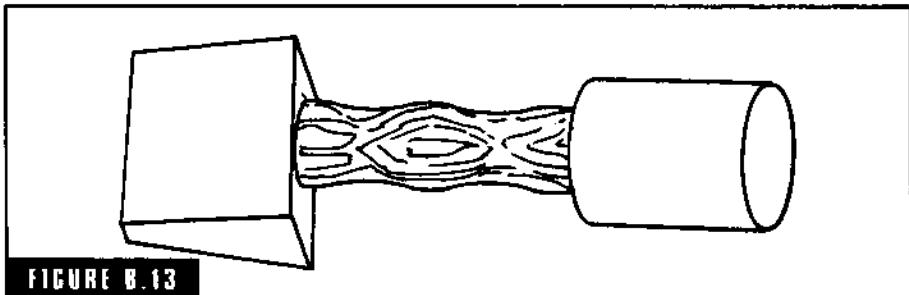

FIGURE B.13
**bench rammer** Made of oiled maple. You can buy one or turn one on a lathe and bandsaw the peen end into a wedge shape (Fig. B-13). The butt end is used to ram the sand tightly around the inside perimeter of the flask to prevent the cope or drag mold from falling out when either half is moved, rolled over, or lifted.